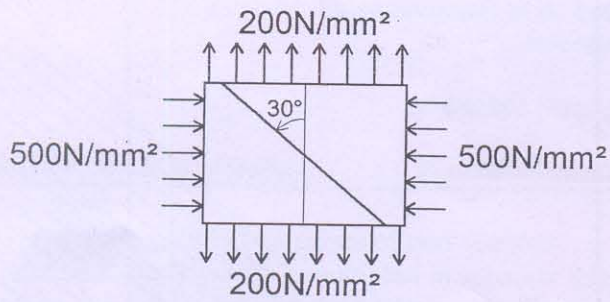
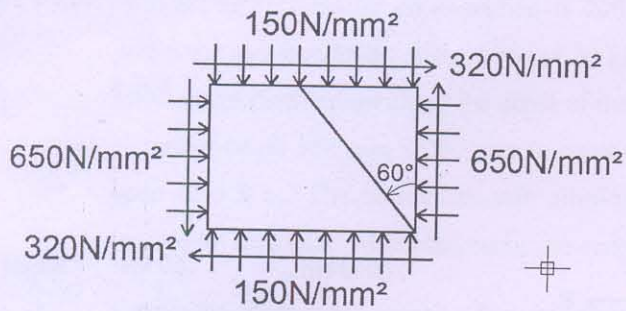

Fig. 1
Fig. 3
- (a) A point in a strained material is subjected to the stresses as shown in **Figure 1**. Find Normal (p_n), Tangential (p_t) and Resultant (p_r) stresses on a plane inclined at 30° with vertical as shown in Figure 3. Also find maximum Tangential stress ($p_{t \max}$). Use both Analytical and graphical method.
- (c) At a point in a strained material, the intensities of Normal stress across two planes right angles to each other as shown in **Figure 3**. Locate the principal planes and evaluate the principal Stresses (p_1 & p_2). Also find the planes of maximum shear stress ($p_{t \max}$) & its location. Find Normal (p_n), Tangential (p_t) stresses on a plane inclined at 60° with vertical as shown in Figure 3. Use both Analytical and graphical method.